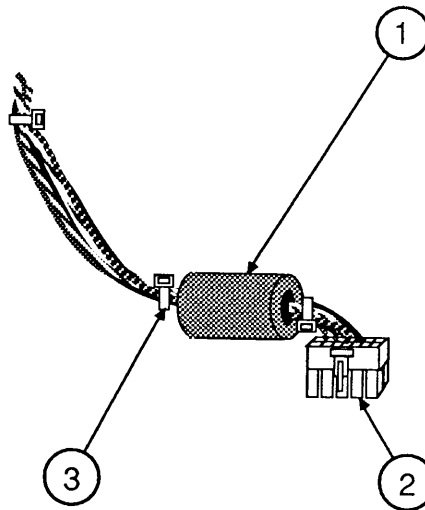

FIGURE 19
15. Position the clip-on ferrite bead (Figure 19, #1) around the video board cable as near the video board connector (Figure 19, #2) as possible. Snap the ferrite bead shut.
16. Install a plastic tie-wrap (Figure 19, #3) on the cable to hold the ferrite bead near the connector. Cut off excess tie-wrap.